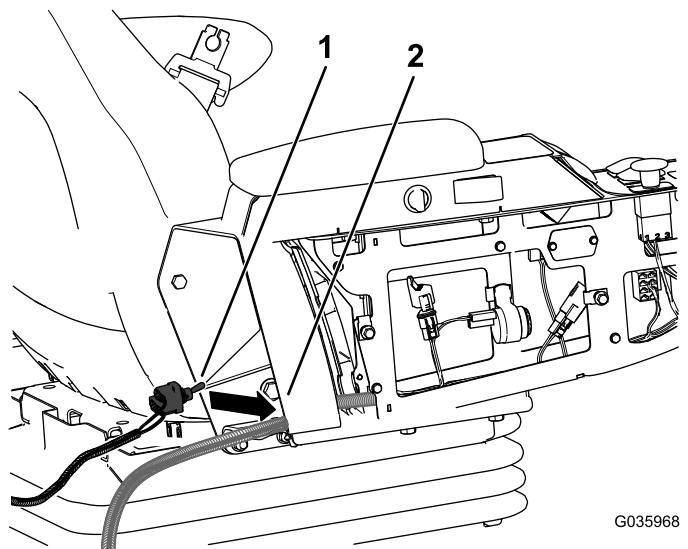

Figure 19
- Route the toggle switch with the connected wire harness into the rear of the center console (Figure 19).